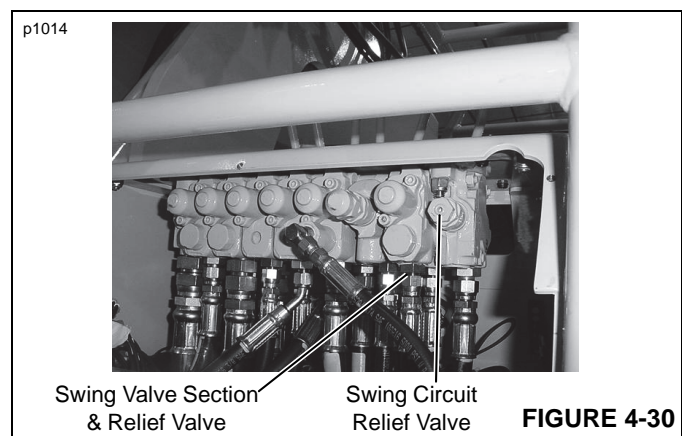

FIGURE 4-30
2. Remove the access panel in front of the dash panel to gain access to the main control valve. (Figure 4-30). Install a tee, with a 0 - 344.50 bar (0 - 5000 psi) pressure gauge attached, between the front hose and fitting of the swing section of the main control valve.
3. Remove the cap nut from the relief valve (Figure 4-30) in the inlet section of the main control valve. Loosen the jam nut.